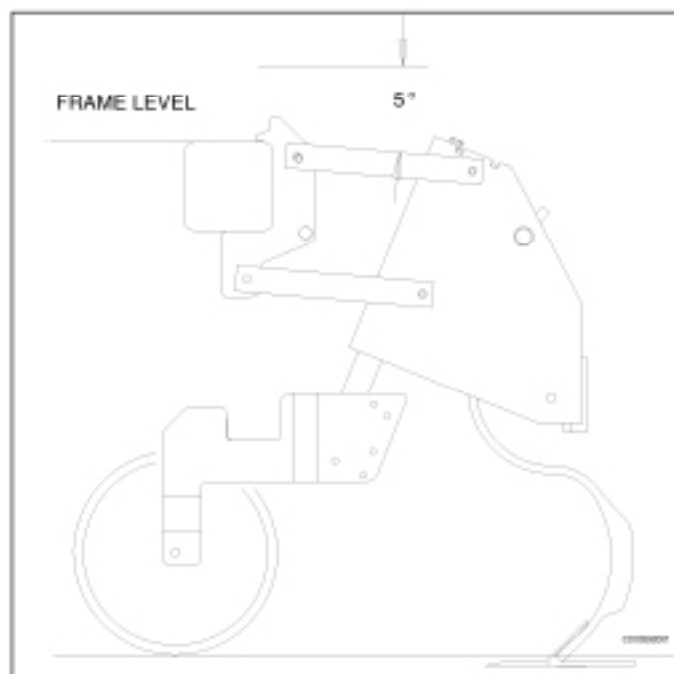

Figure 9 Operating Position
4. Lower cultivator so that sweeps and gauge or guide wheels rest on the ground. Position toolbar in the operating position so that cultivator linkage is nearly horizontal. See Figure 9.